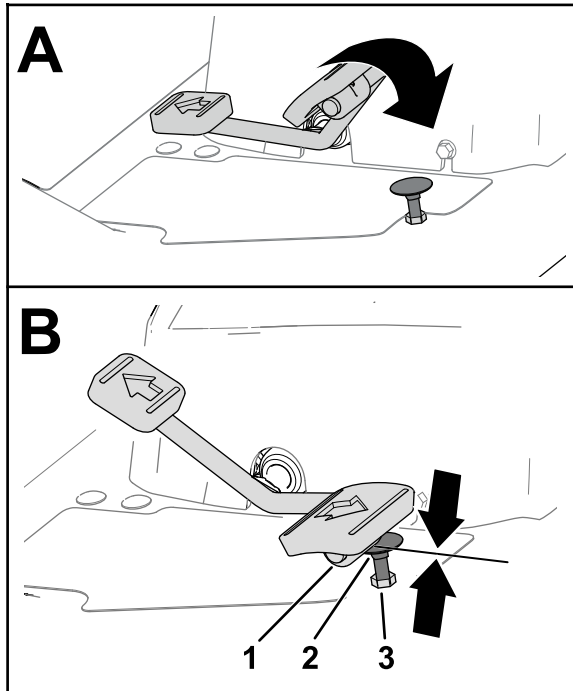
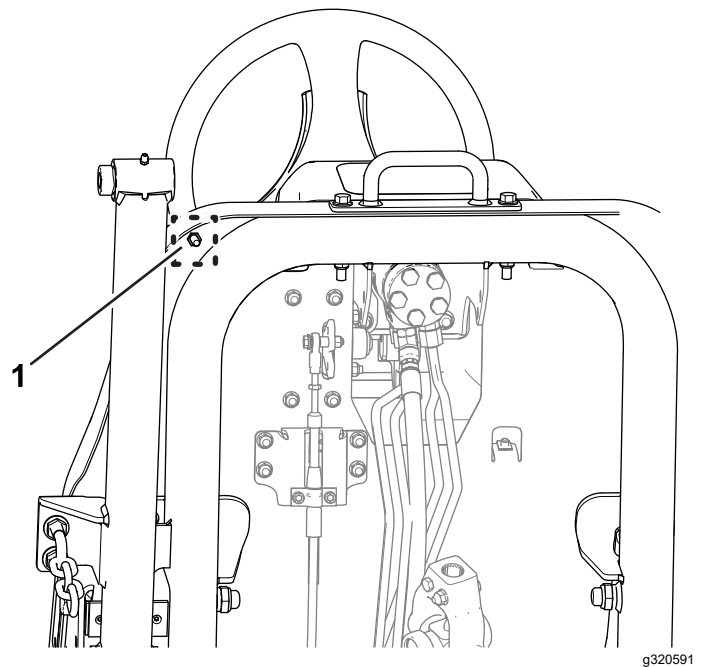

Figure 76
Figure 77
1. Move the traction pedal fully forward (Figure 76).
- A. Hold the traction-pedal stop (Figure 76) with a wrench.
- B. Loosen the jam nut at the bottom of the footrest plate (Figure 77).
- C. Move the traction pedal to the full forward position (Figure 76).
- D. While holding the traction-pedal stop, adjust the jam nut that is above the footrest plate (Figure 76) until the traction pedal makes contact with the stop.
- F. While holding the traction-pedal stop, torque the jam nut at the bottom of the footrest plate (Figure 76 and Figure 77) to 37 to 45 N·m (27 to 33 ft-lb).